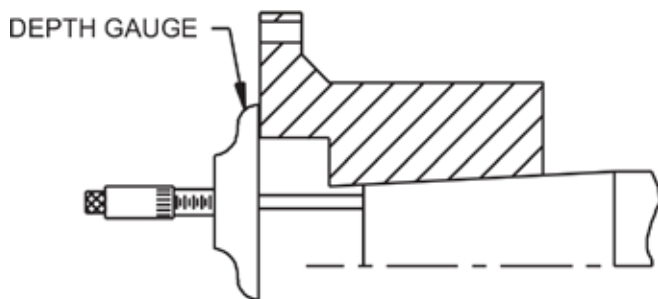

Figure 1. Measuring Hub Overhang
- 2.4 Clean the hub bore and shaft. For straight bores, proceed to step 2.6. For tapered bores, mount the hub hand-tight on the shaft and lightly rap it with a soft mallet to establish the initial line-to-line fit. This is the START position. With a depth gauge, measure the amount the hub overhangs the shaft end and record this value. See Figure 1.
2.7 Place the hub in the proper position on the shaft. Hold the hub in place as it cools. For tapered bores, verify the hub advance (see Figures 1 and 2) and install the shaft retaining nut. Remove the split collar from the shaft.